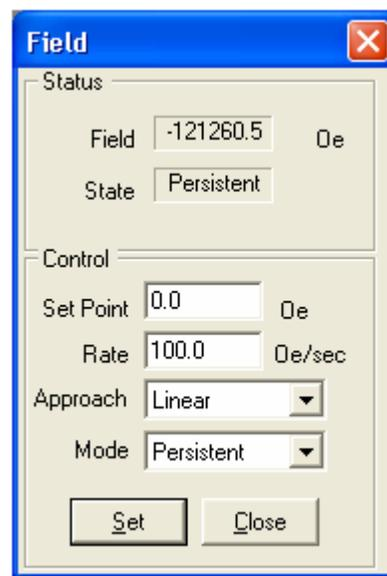

Figure 1. PPMS® Field dialog
2. If the magnetic field is not in **Persistent** mode and at zero (0) Oe, reset it according to the sequence below:
- a. Select **Instrument >> Field** (Figure 1).
- b. In the **Field** dialog box, set the **Mode** to **Persistent** and the **Set Point** to zero (0) Oe.